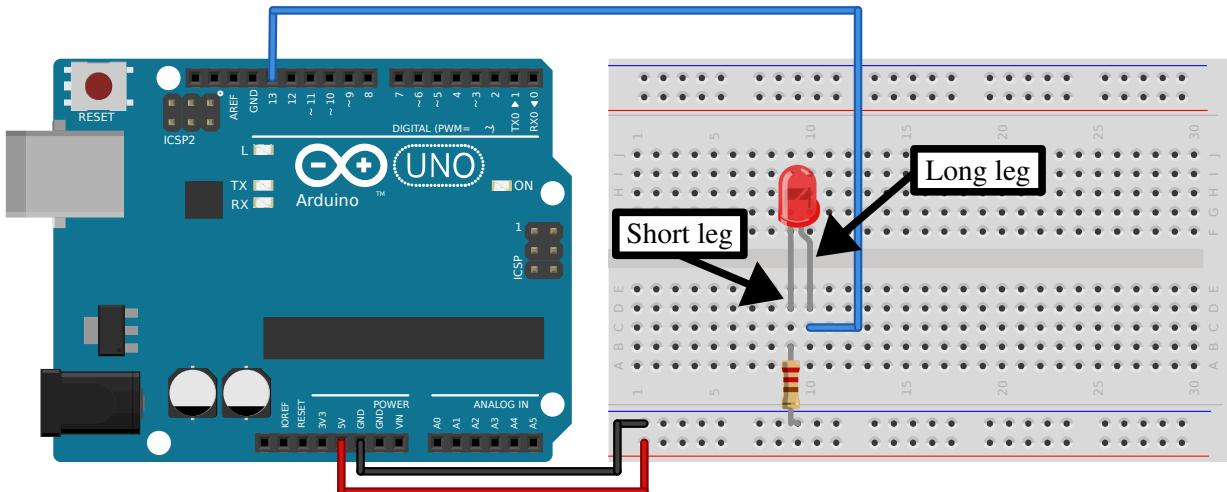

Figure 4 – Basic “blink” circuit
7. Insert the LED (as in Figure 4).
Firstly we will set up the same LED circuit as previously (see Figure 4, previously).